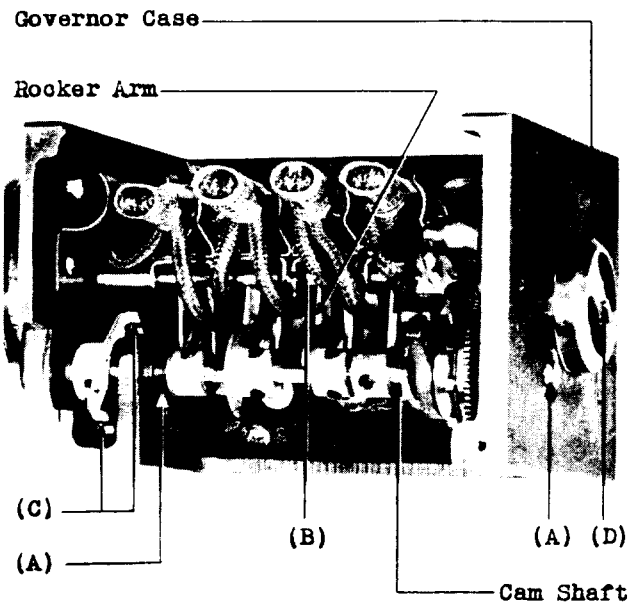

Fig. 2 - End View of Timer
Cam Shaft Bearings	- Fig. 2 (A)
Rocker Arm Bearings	- Fig. 2 (B)
End of Wire Coupling	- Fig. 2 (C)
Bearing in Governor Case - Fig. 2 (D)